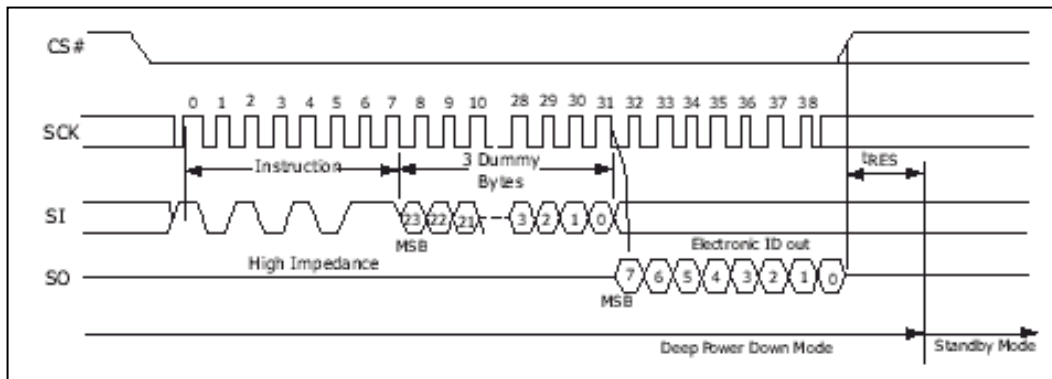

Figure 16. Release from Deep Power Down and Read Electronic Signature (RES) Instruction Sequence
The device is first selected by driving Chip Enable (CE_L) Low. The instruction code is followed by three dummy bytes, each bit being latched-in on Serial Data Input (SI) during the rising edge of Serial Clock (SCK). Then, the 8-bit Electronic Signature, stored in the memory, is shifted out on Serial Data Output (SO), each bit being shifted out during the falling edge of Serial Clock (SCK). The instruction sequence is shown in Figure 16.